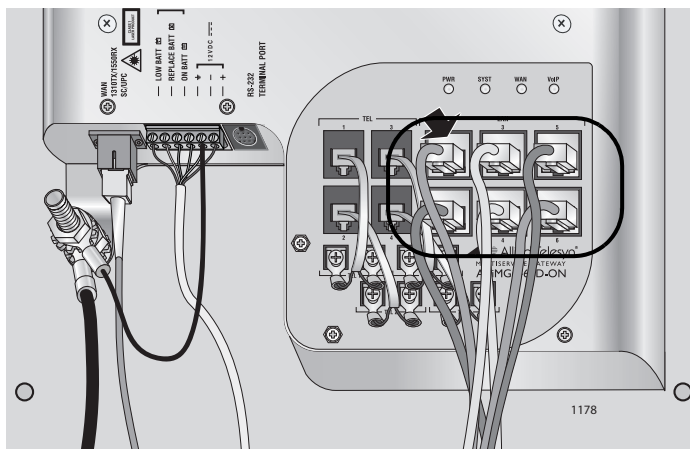

Figure 55. Connecting the LAN Cables
1. Connect the LAN cables to the RJ-45 ports on the gateway, as shown in Figure 55.